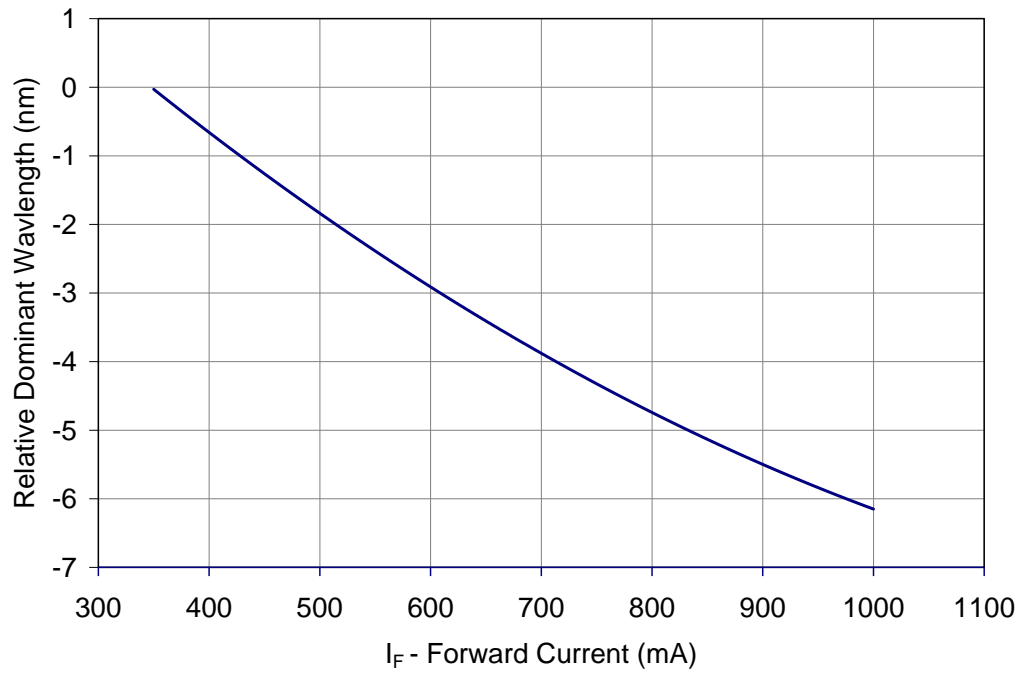

Figure 6: Typical relative dominant wavelength shift vs. forward current @  $T_c = 25^\circ\text{C}$ .
3. Refer to Figure 6 for typical dominant wavelength shift over forward current.
- Refer to Figure 6 for typical dominant wavelength shift over forward current.